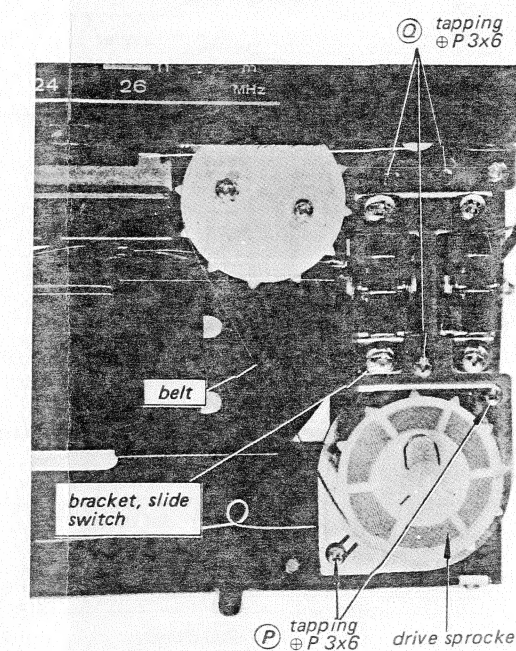

Fig. 2-20.
1. Remove the two screws marked ⑨ in Fig. 2-20 and remove the drive sprocket.
2. Remove the three screws marked ⑩ and take off the slide switch bracket.